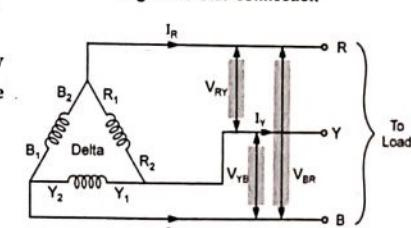

Fig. 4.6.1 Star connection
- Consider a star connected system as shown in the Fig. 4.6.1.